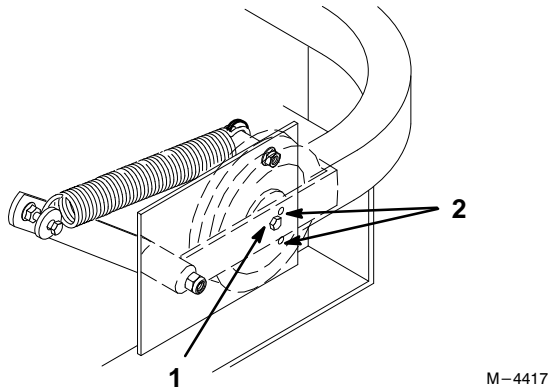

Figure 5
4. Check belt tension. The center bolt of spring loaded idler must be between the two alignment holes in left support plate (Fig 5).
6. Check belt tension again. The center bolt of spring loaded idler must be between the two alignment holes in left support plate (Fig 5). Adjust, if necessary, and tighten all hardware securely.